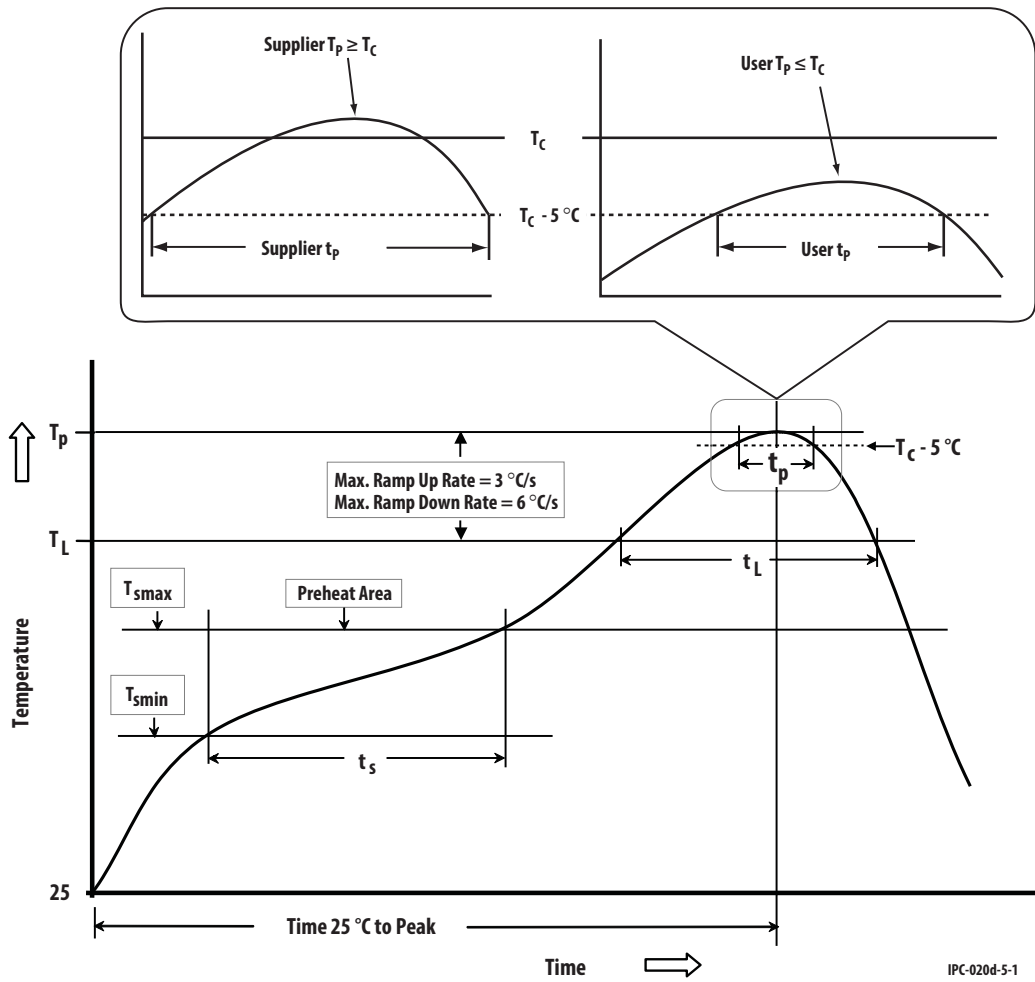

Figure 4. Solder IR Profile (reference to JEDEC J-STD-020D)
- Only one soldering operation is recommended within the thermal profile. (see Figure 4 for the thermal profile, guidelines for the time and temperature are indicated in tables 2, 3 and 4, with reference to IPC J-STD-020D)